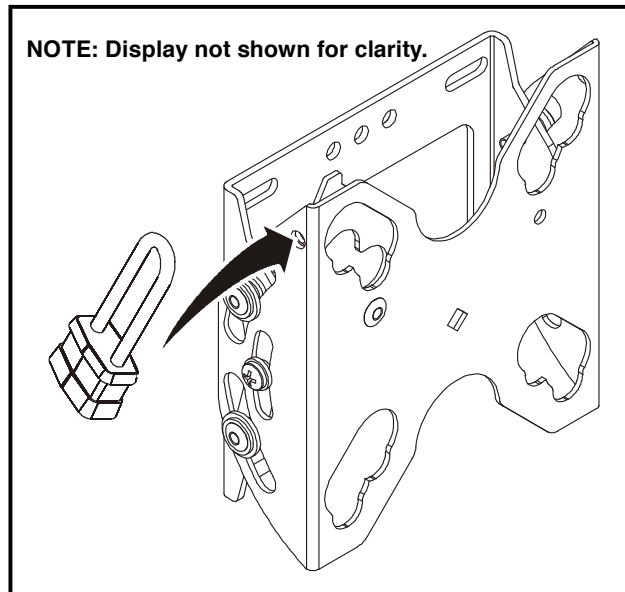

Figure 8
**NOTE:** An optional padlock may be used to secure latching flag in place. (See Figure 8)